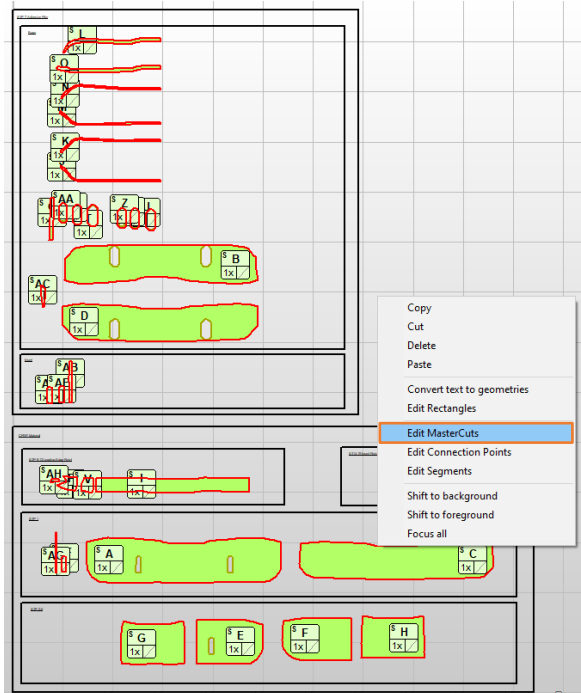

Figure 257
49. Next right-click and then select **[Edit MasterCuts]** (Figure 257).